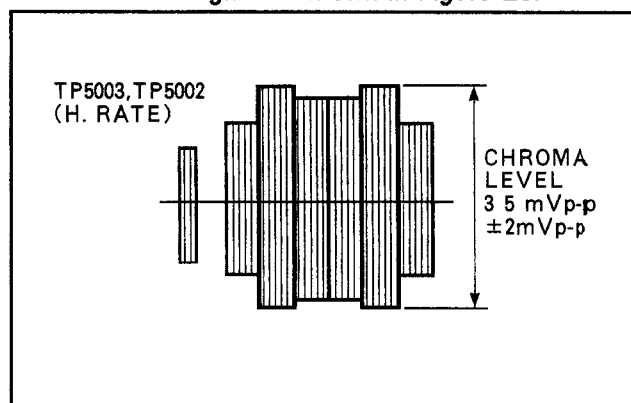

Figure E7
5. Adjust VR5002 for $35\text{mVp-p} \pm 2\text{mVp-p}$ as a cyan level of the chrominance signal as shown in Figure E7.